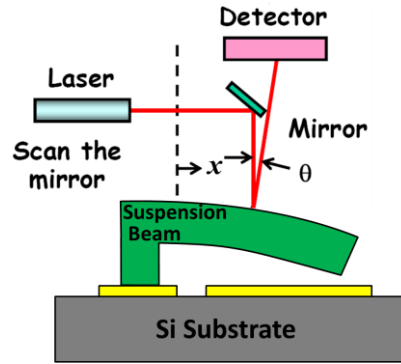

Fig. PS4.1-5
- d) One method to measure the stress gradient in a thin film entails measuring the radius of curvature by directing a laser beam onto the surface of the film and measuring the angle θ between the wafer surface and the laser beam directed straight down. Suppose you can also use such system to measure the stress gradient in the cantilever, as illustrated in Fig. PS4.1-5. Write an expression of the angle θ as a function of location x and Find the angle θ_{max} at the tip of the cantilever as a function of the maximum stress σ_1 in the film.